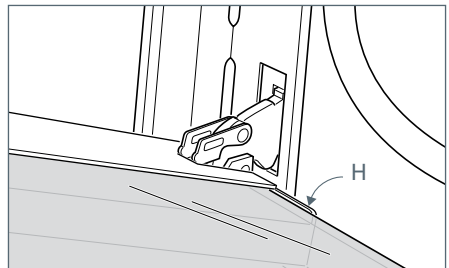

Fig.62c
- Insert the pane in the left "E" and right "F" slide guides, and gently slide it to the retainers "H" (Fig. 62c).